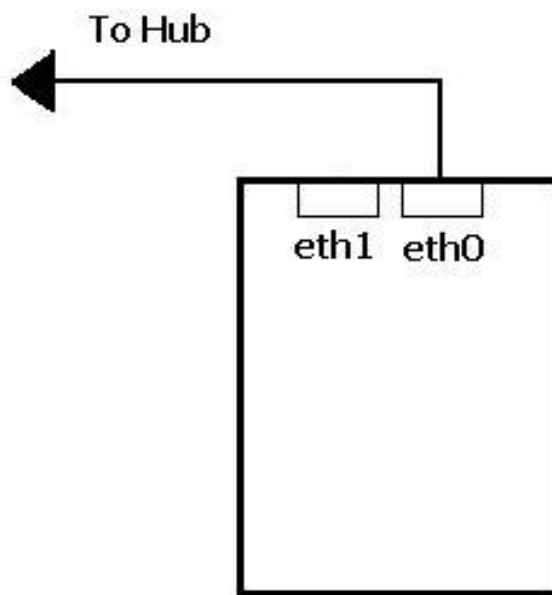

Figure 11: Ethernet connection
4. Verify a connection between motherboard **eth0** network interface (right connector) and network hub as shown **Figure 11**.